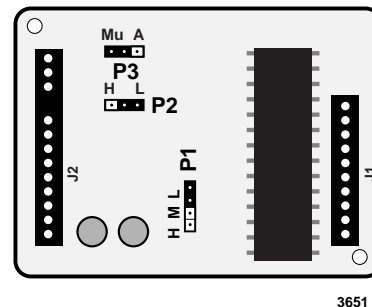

Figure 7-7 Remote Maintenance Modem (IMDU2) Installation
6. Mate IMDU2 connector J1 with P1 and P2 and IMDU2 J2 with P3 and P4 (see Figure 7-7).